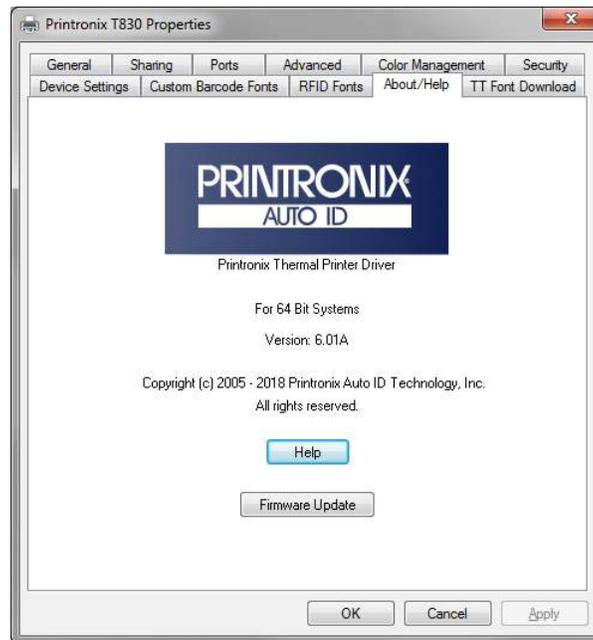

Figure 6 Updating Firmware
5. Click the **Firmware Update** button as in Figure 6.